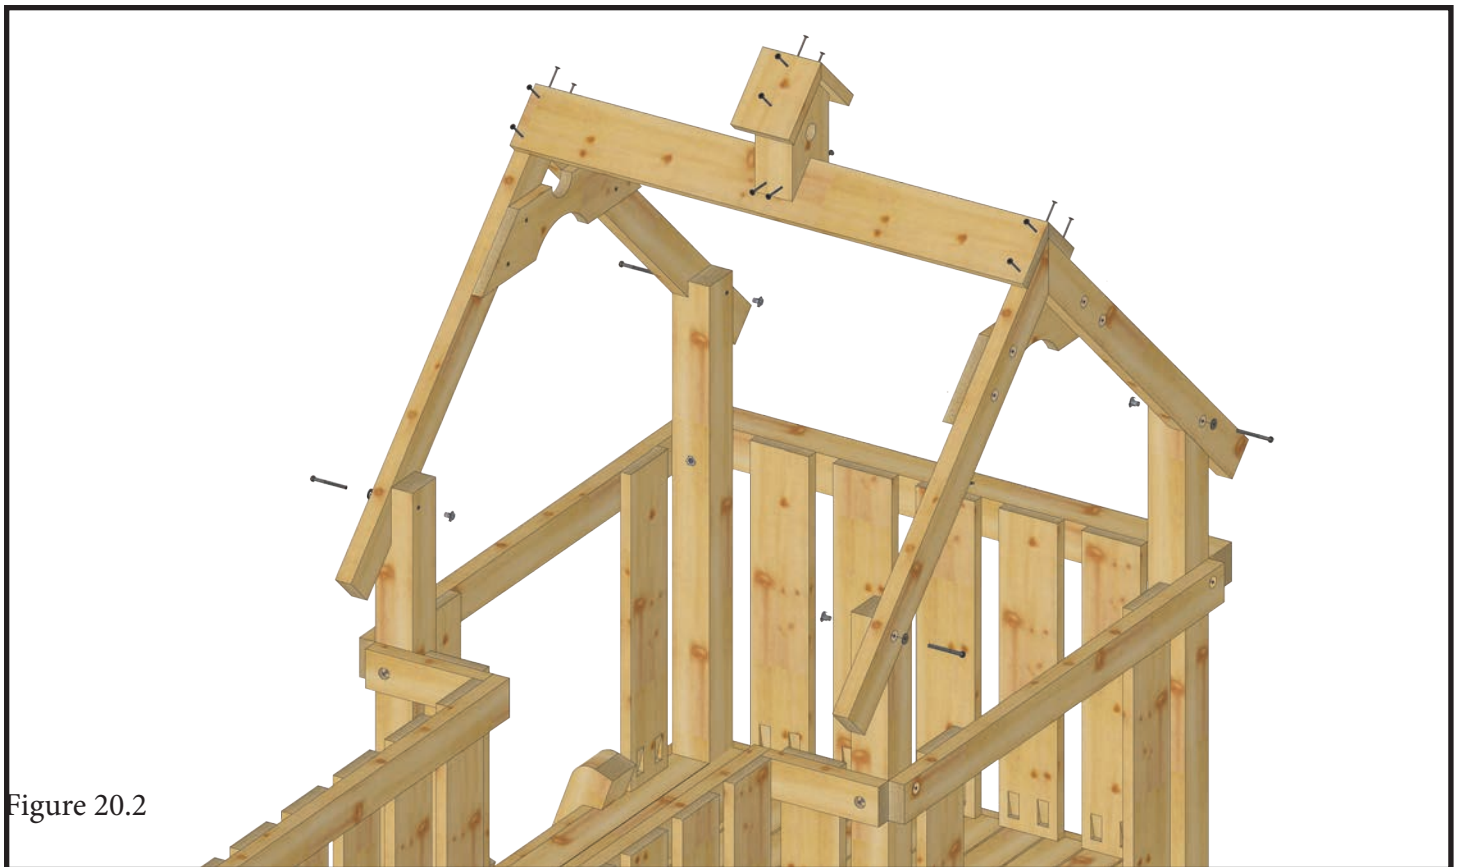

Figure 20.2
20.3 Fasten Rafter Assembly to Corner Post with 5/16" x 3" Hex Bolts with 5/16" washer into T-Nuts as shown in Figure 20.2.